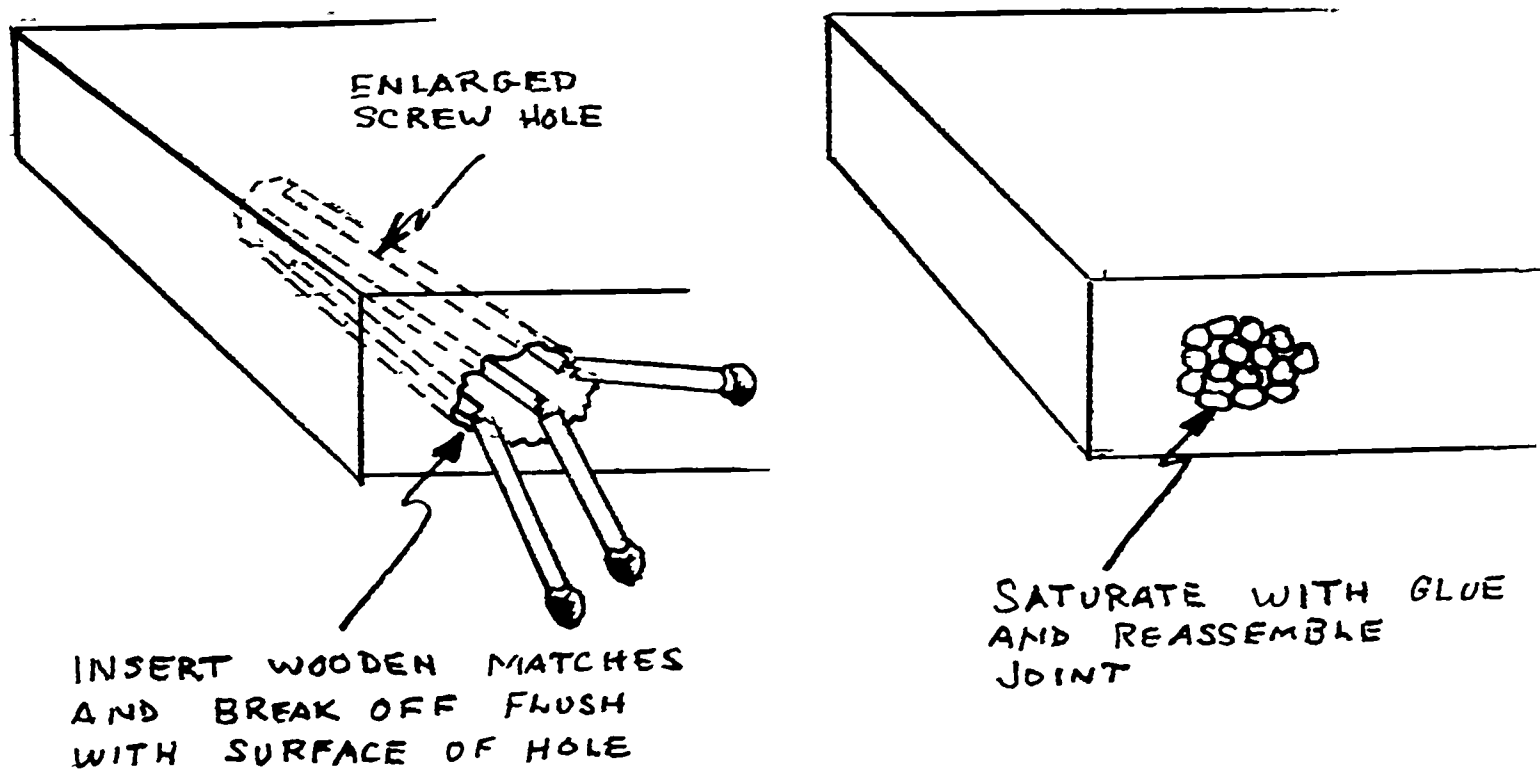

FIG. 236
4. If screw holes have been stripped, make new holes as close as possible or fill the old ones. See figure 236.